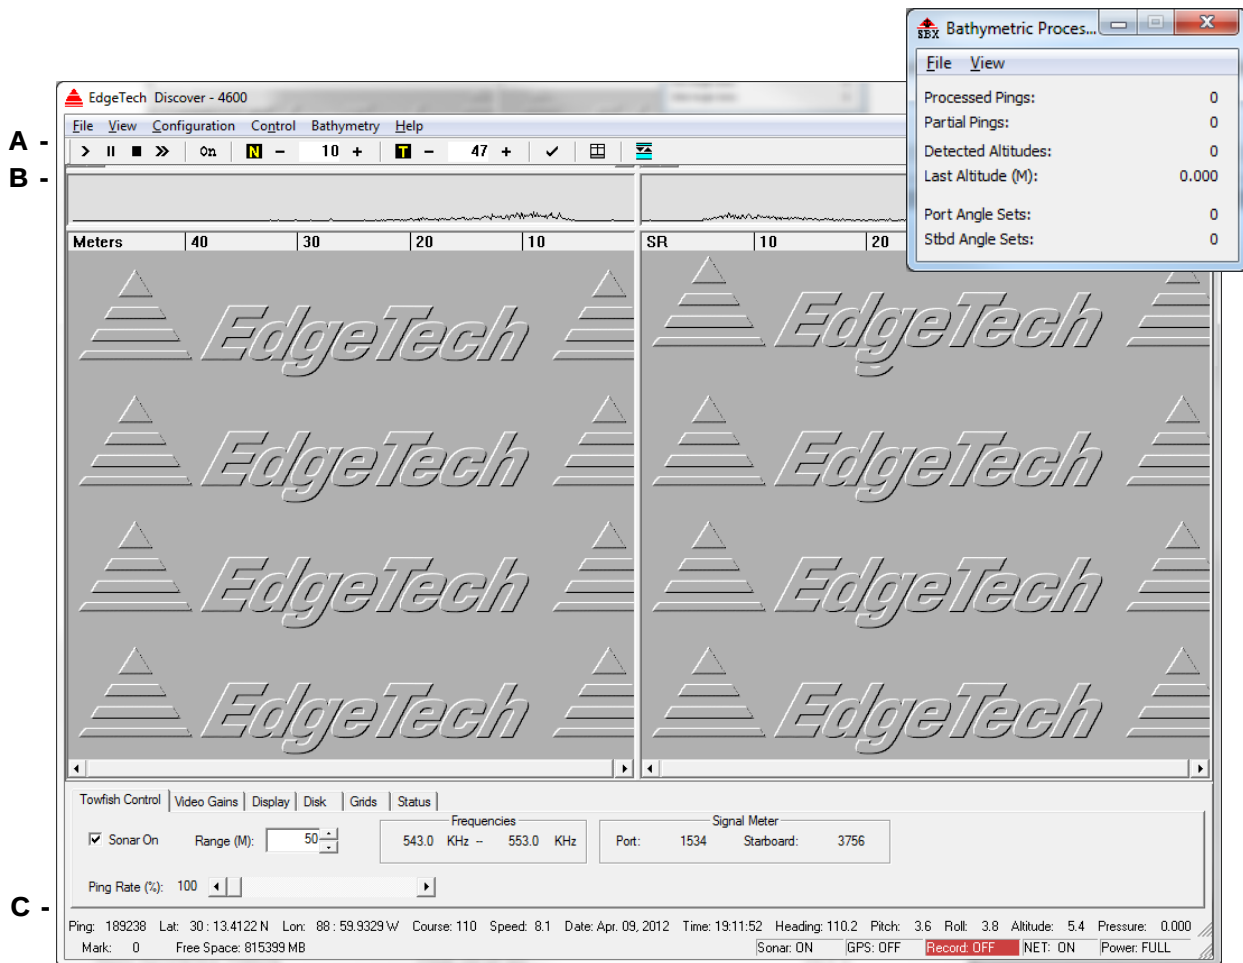
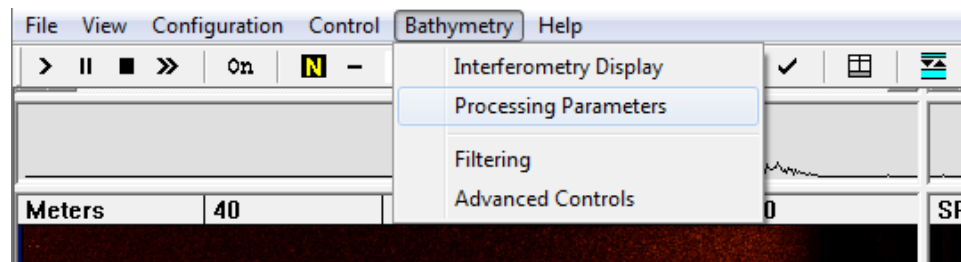
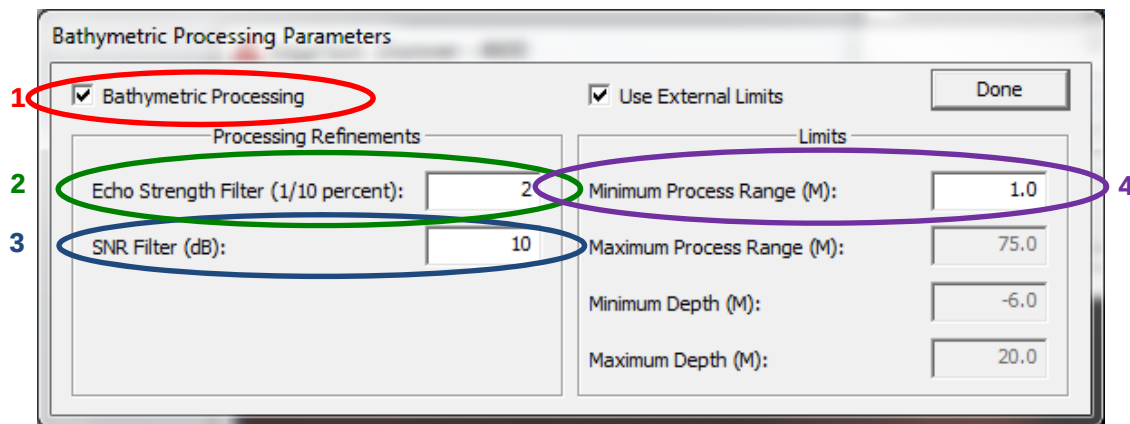

Figure 20: DISCOVER Main Window and BATHYMETRIC PROCESSOR
Figure 31: Discover 4600 Top Menu - Selecting Bathymetric Processing Parameters
Figure 32: Basic Bathymetry
1. Launch DISCOVER 4600 using the Desktop shortcut. The two main windows will appear as in Figure 20.
The *DISCOVER Main Window* contains a *Top Menu*^A, a *Toolbar Menu*^B, and a *Control Menu*^C. These menus are illustrated in Figure 20 and correspond to A, B, and C, respectively. A brief description of the shortcut keys in the *DISCOVER Toolbar Menu* and the *DISCOVER Control Menu* are given on page 39 through 44. The *Top Menu* is not described because it is self-explanatory.
The *DISCOVER Toolbar Menu* permits the user to have easy access to certain features in the *Top Menu* and *Control Menu*. The *Toolbar Menu* (list B in Figure 20) is demonstrated in Figure 23 with an explanation for each.
To adjust the basic bathymetric processing parameters in DISCOVER, select **Bathymetry** from the *Top Menu* (designated as row A in Figure 20) and then **Processing Parameters** (Figure 31 and Figure 32).
Here you can turn on/off the BATHYMETRIC PROCESSOR, adjust the echo strength (1/10%), SNR filter (dB), and Minimum Process Range (m). This window also allows you to specify if you would like to use/not use the external limits given by the 3rd Party Interface. The recommended parameters are shown in Figure 32 for a silty/sand type seafloor.
A few important things to know about basic bathymetry are discussed in items 1 through 4 and are highlighted in Figure 32.
If the **Bathymetric Processing** box is unchecked *during playback*, DISCOVER will playback the file exactly as it was collected. If the box is left checked, the BATHYMETRIC PROCESSOR will recalculate the seafloor solutions based on the parameters set in Figure 32. So during acquisition and playback it is *very important* to pay attention to this feature. Typically this box is always checked because the Discover is normally used during real time acquisition.
2. The **Echo Strength Filter** is a fundamental attribute that is used primarily to exclude or trim weak echo points from the data, (i.e. water column and very weak backscatter amplitudes). The data points have an amplitude that can span 0 to 32,767. Typical sea floor echoes are above 300 to 1800, depending on the bottom type. The values that can be inputted to the system are based on 1/10% of this span, meaning that an echo strength of 320 is realistically $320/32767 \times 100\% = 0.98$, and so the value that would be inputted to the system would be 1. In Figure 32 the input is 2, meaning that the seafloor echoes have an amplitude of approximately 650.